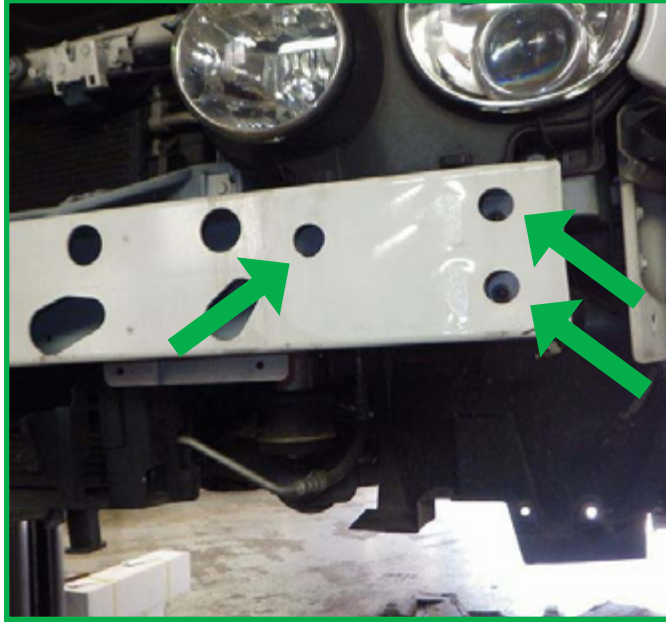

FIGURE 5
7. Remove the three (3) nuts securing the compressor to the mounting bracket and remove the compressor. (Figure 5)